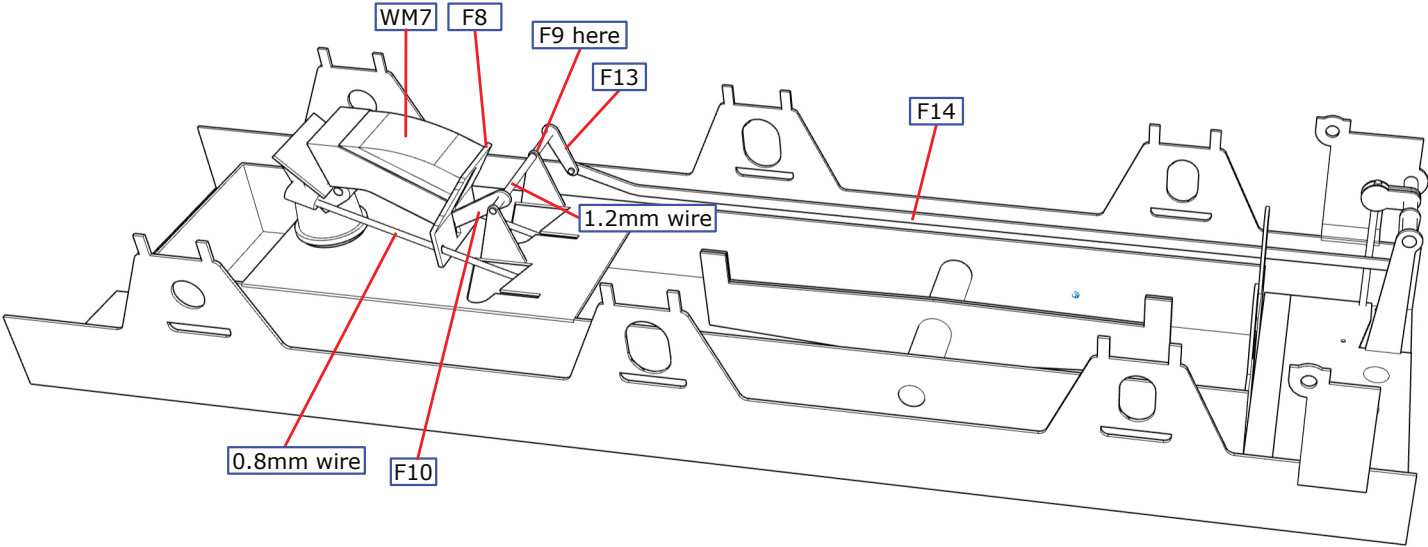
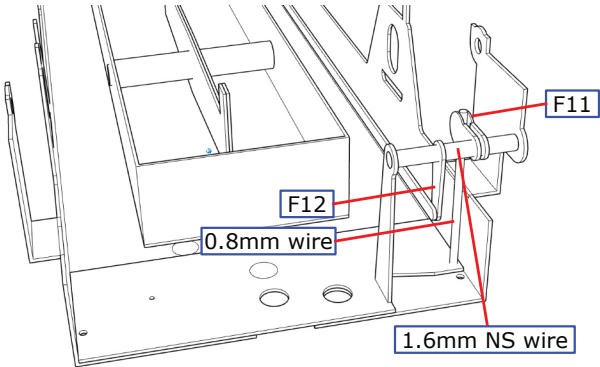

Fig 2. Scoop Mechanism
Fig 3. Scoop Actuators
The early Lots were similar to the contemporary 3000 gallon tenders. They had a short, large diameter transverse vacuum tank, short coal plates, small toolboxes, short vents, the combined water filler/scoop fountain and a tall water level gauge. (Figs. 3,4,5 & 13)
**Water Scoop.** (Fig 2.) Attach the water scoop front plate (F8) to the front of the water scoop casting (WM7), first bending it through approximately 10° along the half etched line. Make a hinge from a piece of wire. Fold down the brackets for the rear scoop cross shaft and solder in place the water scoop bracket overlay (F9). Now attach the water scoop to the well tank and add the stays from 0.8mm wire passing them through the holes in the front plate and the slots in the well tank bottom and attaching them to the scoop at the rear. Add the scoop rear cross shaft from 1.2mm wire and fit the scoop rear cross shaft to scoop lever (F10) at the same time.
**Scoop Operating Mechanism.** Refer to Fig 2 & 3. The front cross shaft is a 14mm piece of 1.6mm nickel silver wire. Assemble the scoop standard to cross shaft levers (F11) and the front cross shaft actuating rod lever (F12) onto the shaft and solder the shaft in place. The bottom of the standard is a piece of 0.8mm wire that should be soldered into the hole in the chassis. Solder the standard to cross shaft levers to the wire and shaft. Solder the actuating rod lever to the cross shaft as shown in Fig 3. Slide the scoop rear cross shaft lever onto the cross shaft. Make 0.8mm pin joints between the scoop actuating rod (F14) and the scoop actuating rod lever on the front shaft and the scoop rear cross shaft lever (F13). When everything fits as shown, solder all in place. Before proceeding any further with the chassis the basic body shell must be constructed as described on page 7.